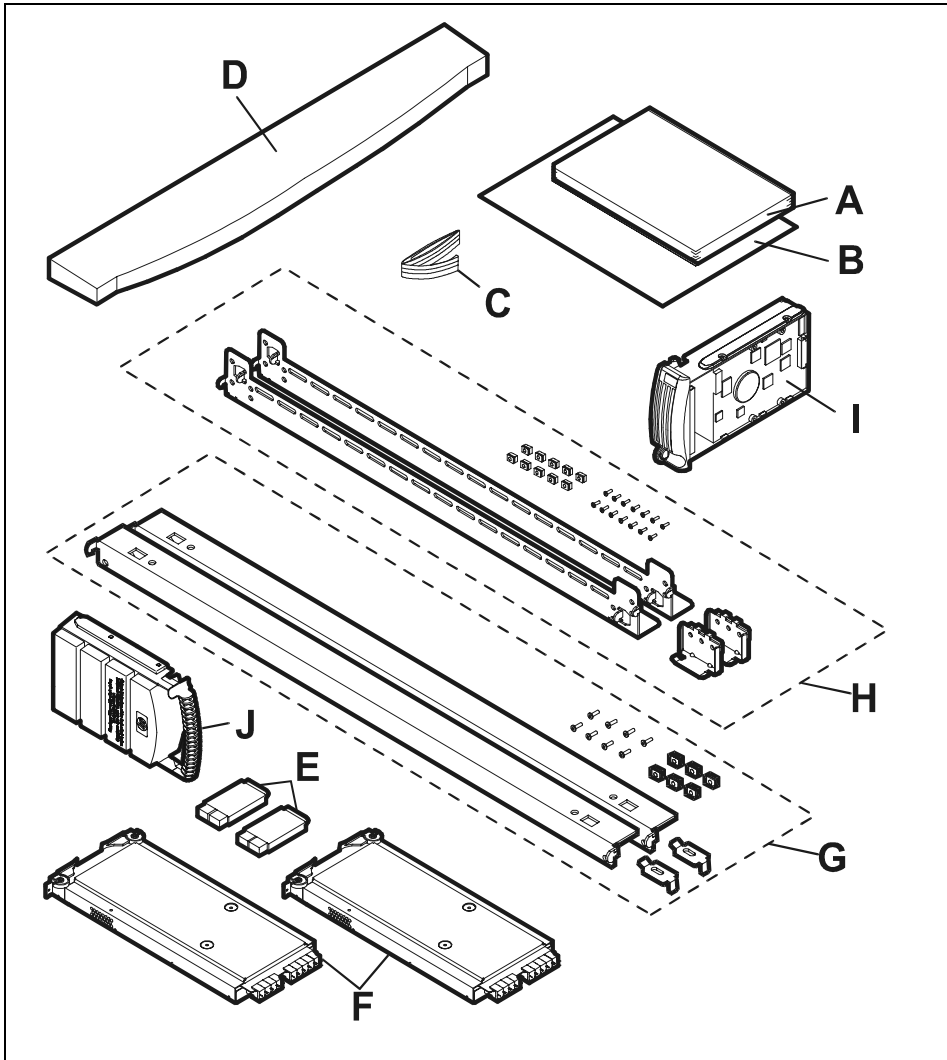

Figure 12 Disk System Accessories
1. Lift off the overcarton and verify the contents of the accessories (top) box. See Table 6 and Figure 12.